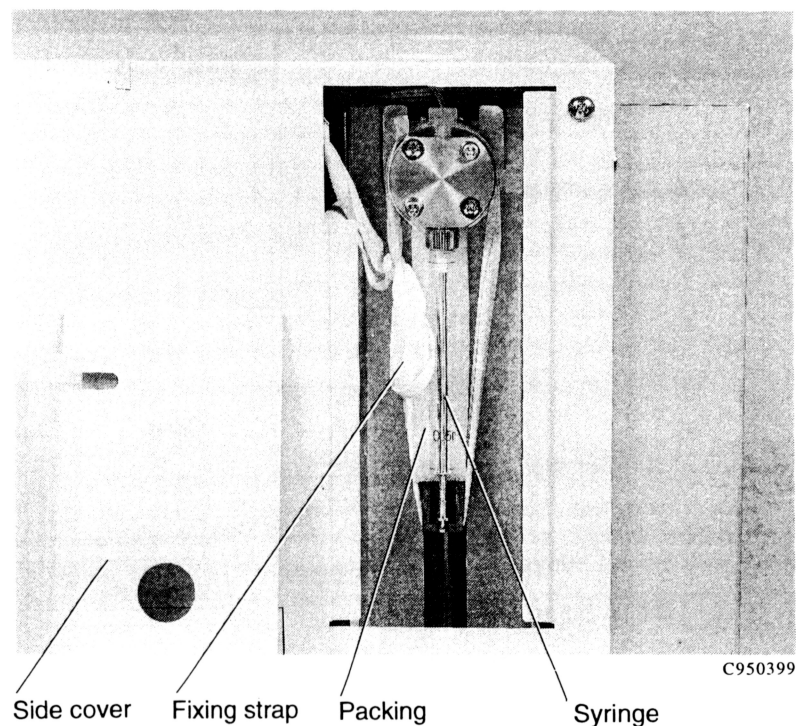

Figure 4-3 Removing the Fixing Strap from the Syringe
1. Removing the Strap and Packing from the Syringe A fastening strap and a packing protect the syringe from damage during shipment. You can access this strap and the packing by removing the side cover as shown in Figure 4-3. Remove the strap and the packing before using the instrument.